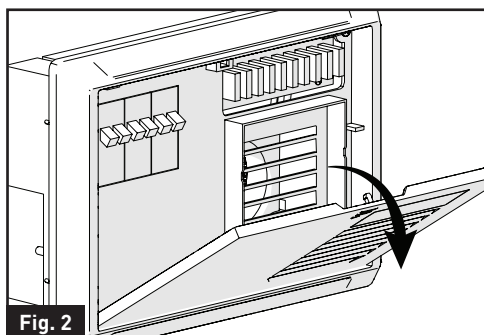

Fig. 2
3. Push the power center front cover around to the position of 'F' mark and rotate downwards to fully open it. (Fig. 2)